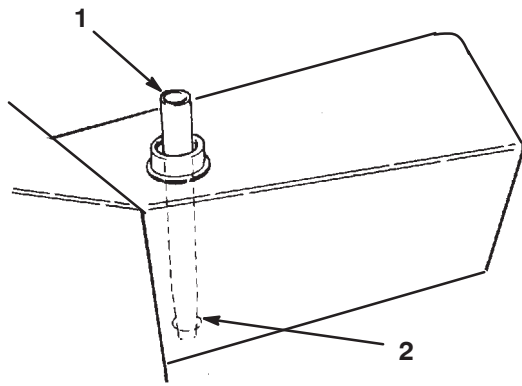

Figure 49
2. If only the filter is to be changed, remove the reservoir cap and insert the reservoir plug (Fig. 49) to block the outlet. This will retain most of the fluid in the reservoir when the filter is removed.